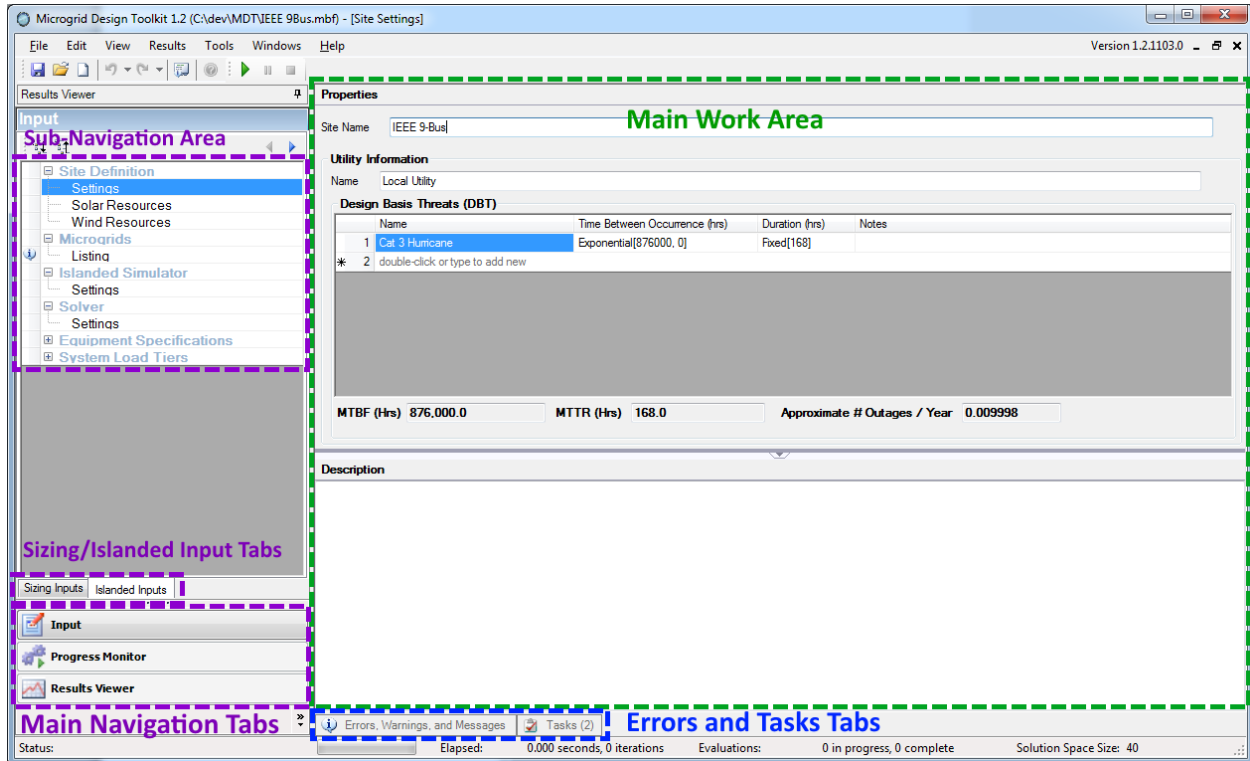

Figure 12. Islanded mode main screen overview.
To access the Islanded Mode input fields, click the Islanded Inputs tab directly above the Input button in the lower left corner of the screen (Figure 12). This will provide access to the Islanded Inputs pages.
- The **page navigation** area is located on the left side of the page (highlighted in purple in Figure 12).
- The **main work area** (highlighted in green Figure 12) takes up the majority of the screen. This is where elements (components of a microgrid) are added and modified.
The equipment specifications are accessed in the sub navigation area or via a button on the toolbar (Figure 12). Equipment specifications should be entered into MDT *before* creating your Microgrid Options. Entering equipment specifications first will make microgrid creation go much faster. The different types of equipment and required information are listed below.